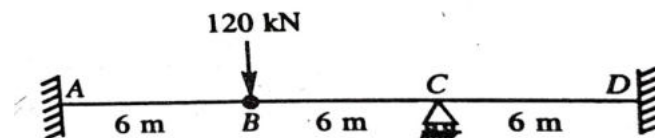

Figure 2.
3. Analyze the continuous beam having an internal hinge at B as shown in figure 2, by using slope deflection method. Flexural rigidity EI is same for all members. [14M]